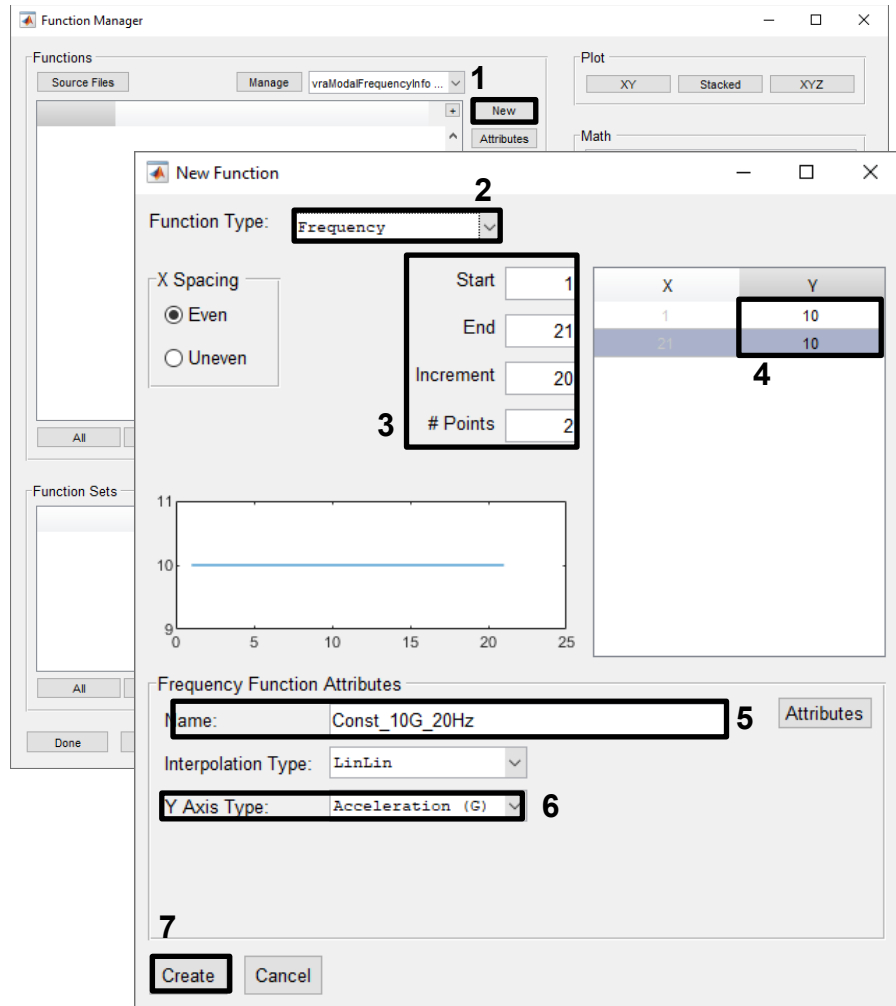

Figure 4-11. Use the Function Manager to create an acceleration function.
- c. In the Function Manager (Figure 4-11), create a new function. Define it as a frequency function with acceleration in G. Give it a constant magnitude of 10G from 1 to 20 Hz.